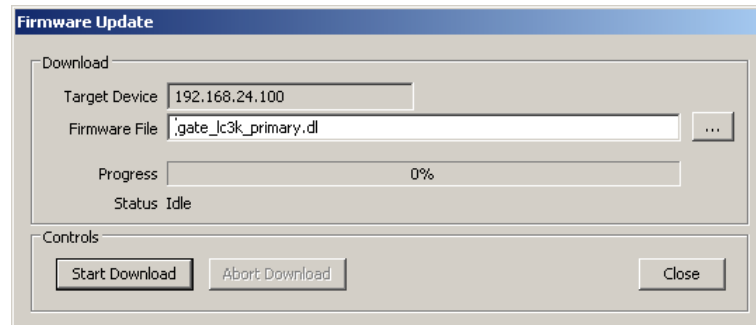

Figure 127: Firmware Update dialog of the L-Gateway configuration software.
6. This opens the Firmware Update dialog as shown in Figure 127. Click on the button “...” and select the firmware image (“lgate_lc3k_primary.dl”).